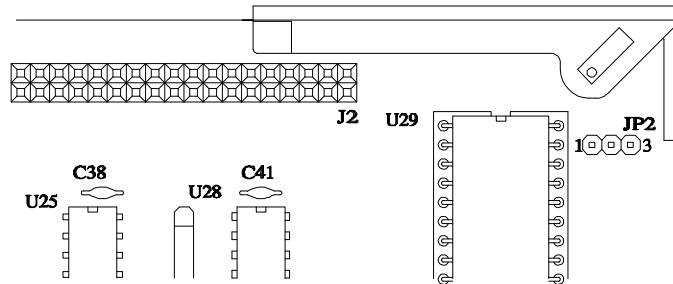

Figure 34 - NSA 400 Controller IFC Strap Option
- 5) Locate JP2 using Figure 34 and install the shunt in the desired location. Setting JP2 in the IFC position (pin 1 and 2) resets only the interface when IFC is received. In the “RESET” position (pin 2 and 3), IFC resets the entire unit.